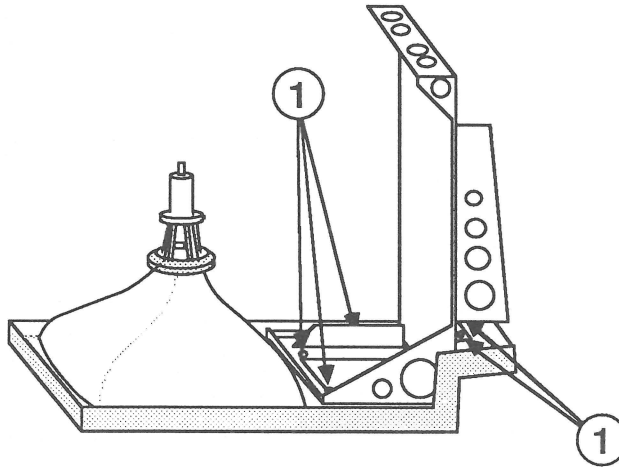

FIGURE 43
5. Replace the metal chassis, with disk and/or SCSI drive(s) attached, and fasten it to the bezel with the five Torx screws (Figure 43, #1).